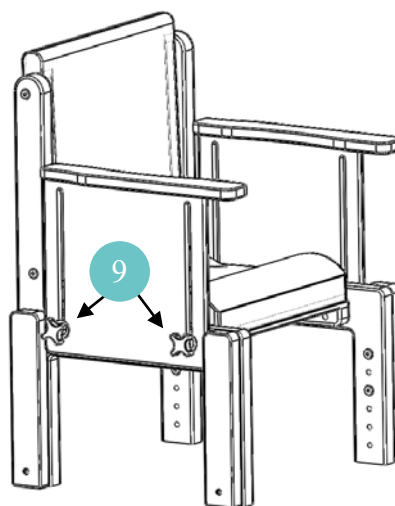

Figure 4
- Loosen handwheels (*Ref. 9 of Figure 4*).
- Tighten handwheels (*Ref. 9 of Figure 4*) when the armrest is set.